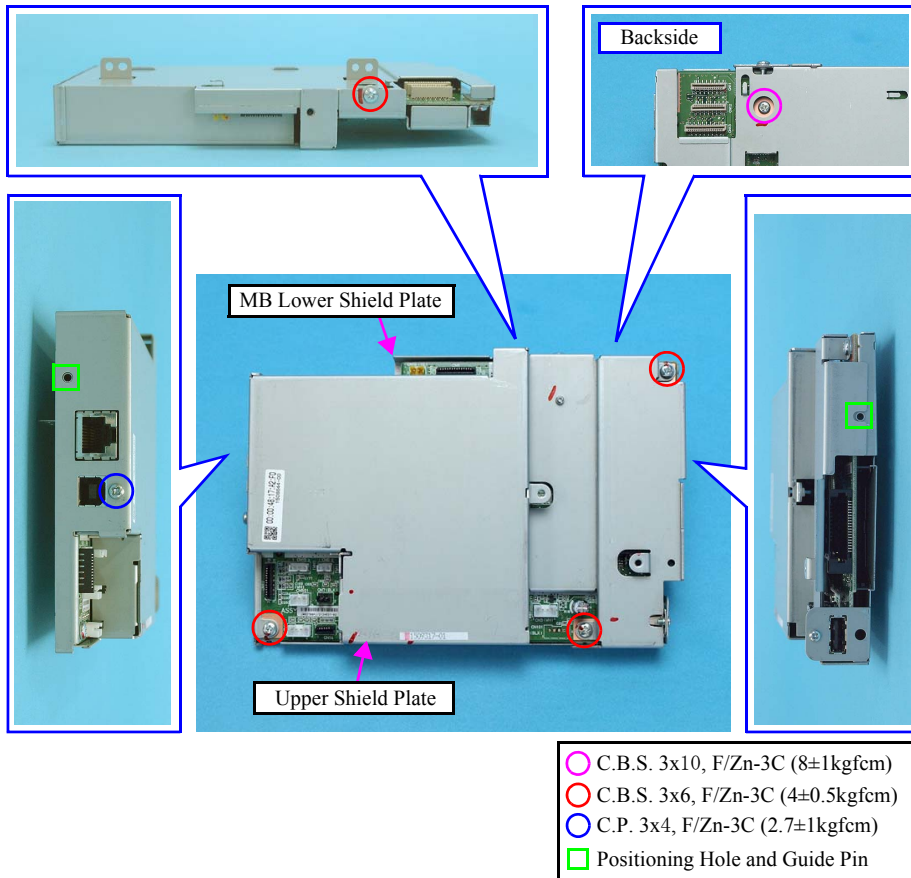

Figure 4-22. Removing the Main Board (1)
- Align the positioning holes (x2) of the Upper Shield Plate and the guide pins (x2) of the MB Lower Shield Plate as shown in Figure 4-22.
- Install the Main Board with the Upper Shield Plate over the MB Lower Shield Plate as shown in Figure 4-22.